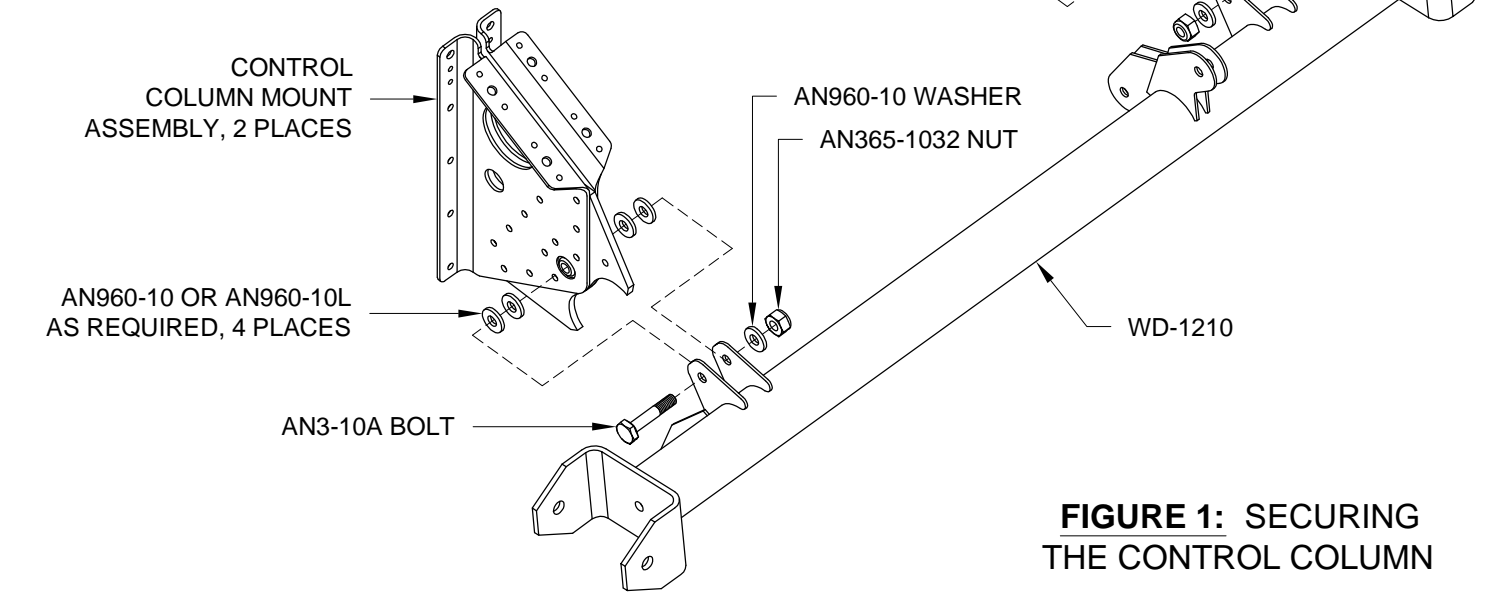

FIGURE 1: SECURING THE CONTROL COLUMN
Step 1: Secure the WD-1210 Control Column to the two Control Column Mount Assemblies using the hardware called out in Figure 1. Hardware call-outs are symmetrical about the fuselage centerline. Small tabs of tape can be used to hold the pairs of washers during installation.